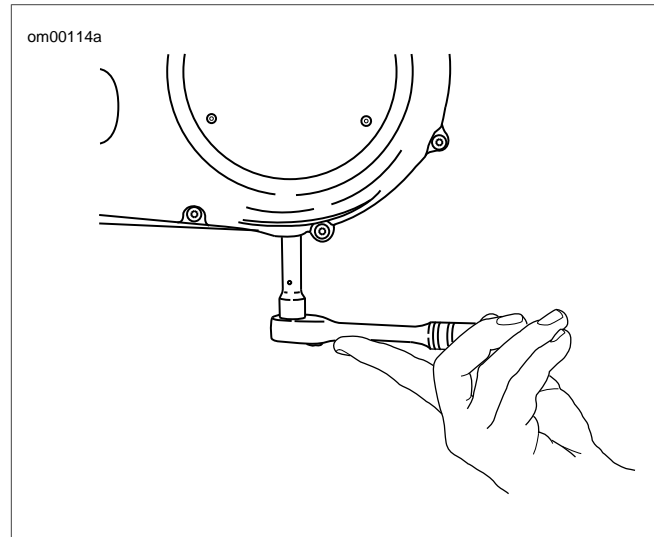

Figure 1-14. Removal/Installation of Chaincase Drain Plug
2. See Figure 1-14. Remove magnetic drain plug at bottom of primary chaincase. Drain lubricant into suitable container.